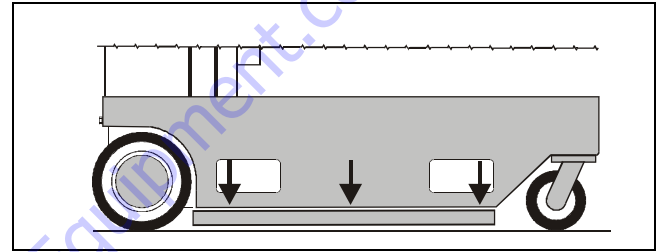

Figure 2-2. Pot-Hole-Protection Bars Lowered.
- b. Ensure Pot-Hole-Protection device is fully engaged (bars down on sides) when the platform is elevated (*See Figure 2-2.*).